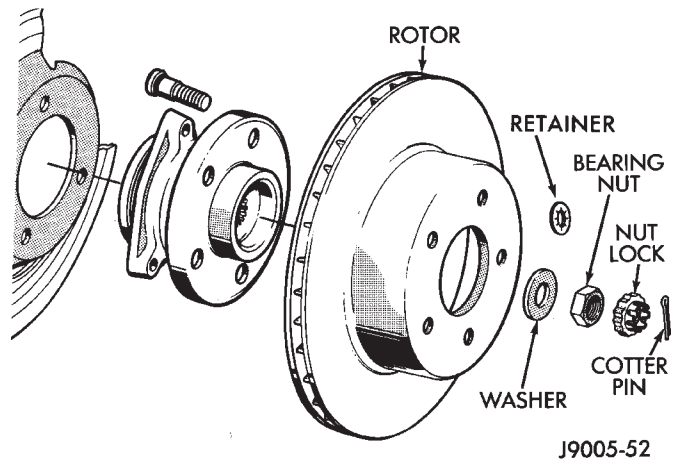

Fig. 33 Rotor & Hub
(1) Remove wheel and tire assemble.
(2) Remove caliper.
(3) Remove retainers securing rotor to hub studs (Fig. 33).
(4) Remove rotor from hub.
(5) If rotor shield requires service, remove front hub and bearing assembly.